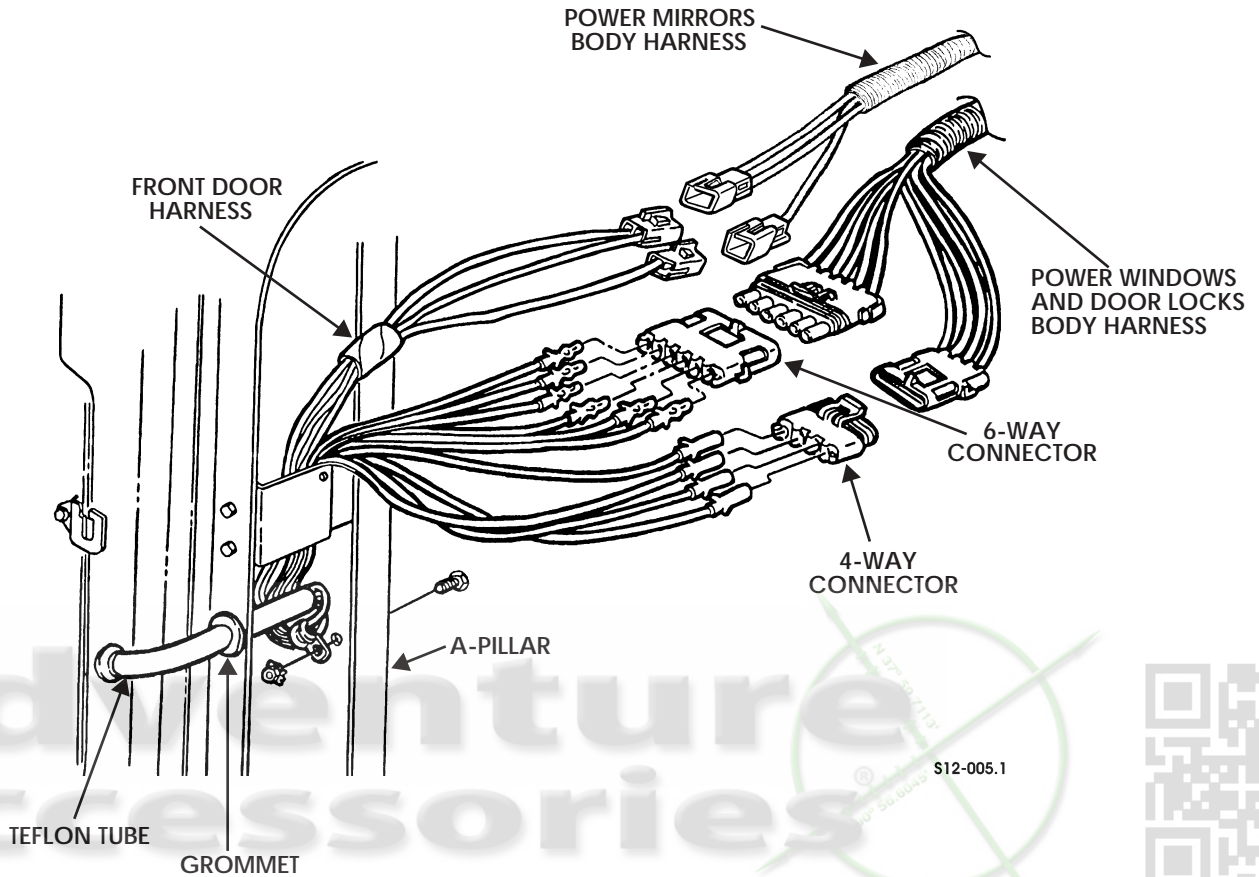

Figure 13-83: Power Windows and Door Locks Harness
5. Disconnect 4-way and 6-way harness connectors from power windows and door locks body harness connectors (Figure 13-83).